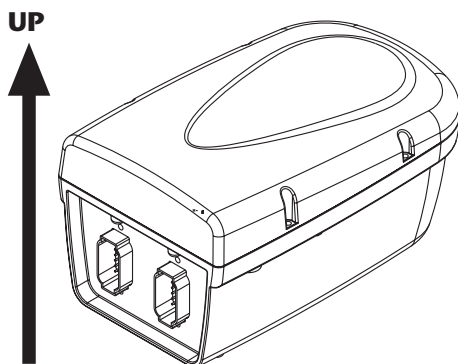

Figure 3-2: Correct Mounting Position for Internal Antenna
1. Mount the radio unit in the selected location per your site planning. If using the internal antenna, be sure to mount the unit in the position shown in Figure 3-2 below, with the omni-directional radiation pattern along the horizontal plane.